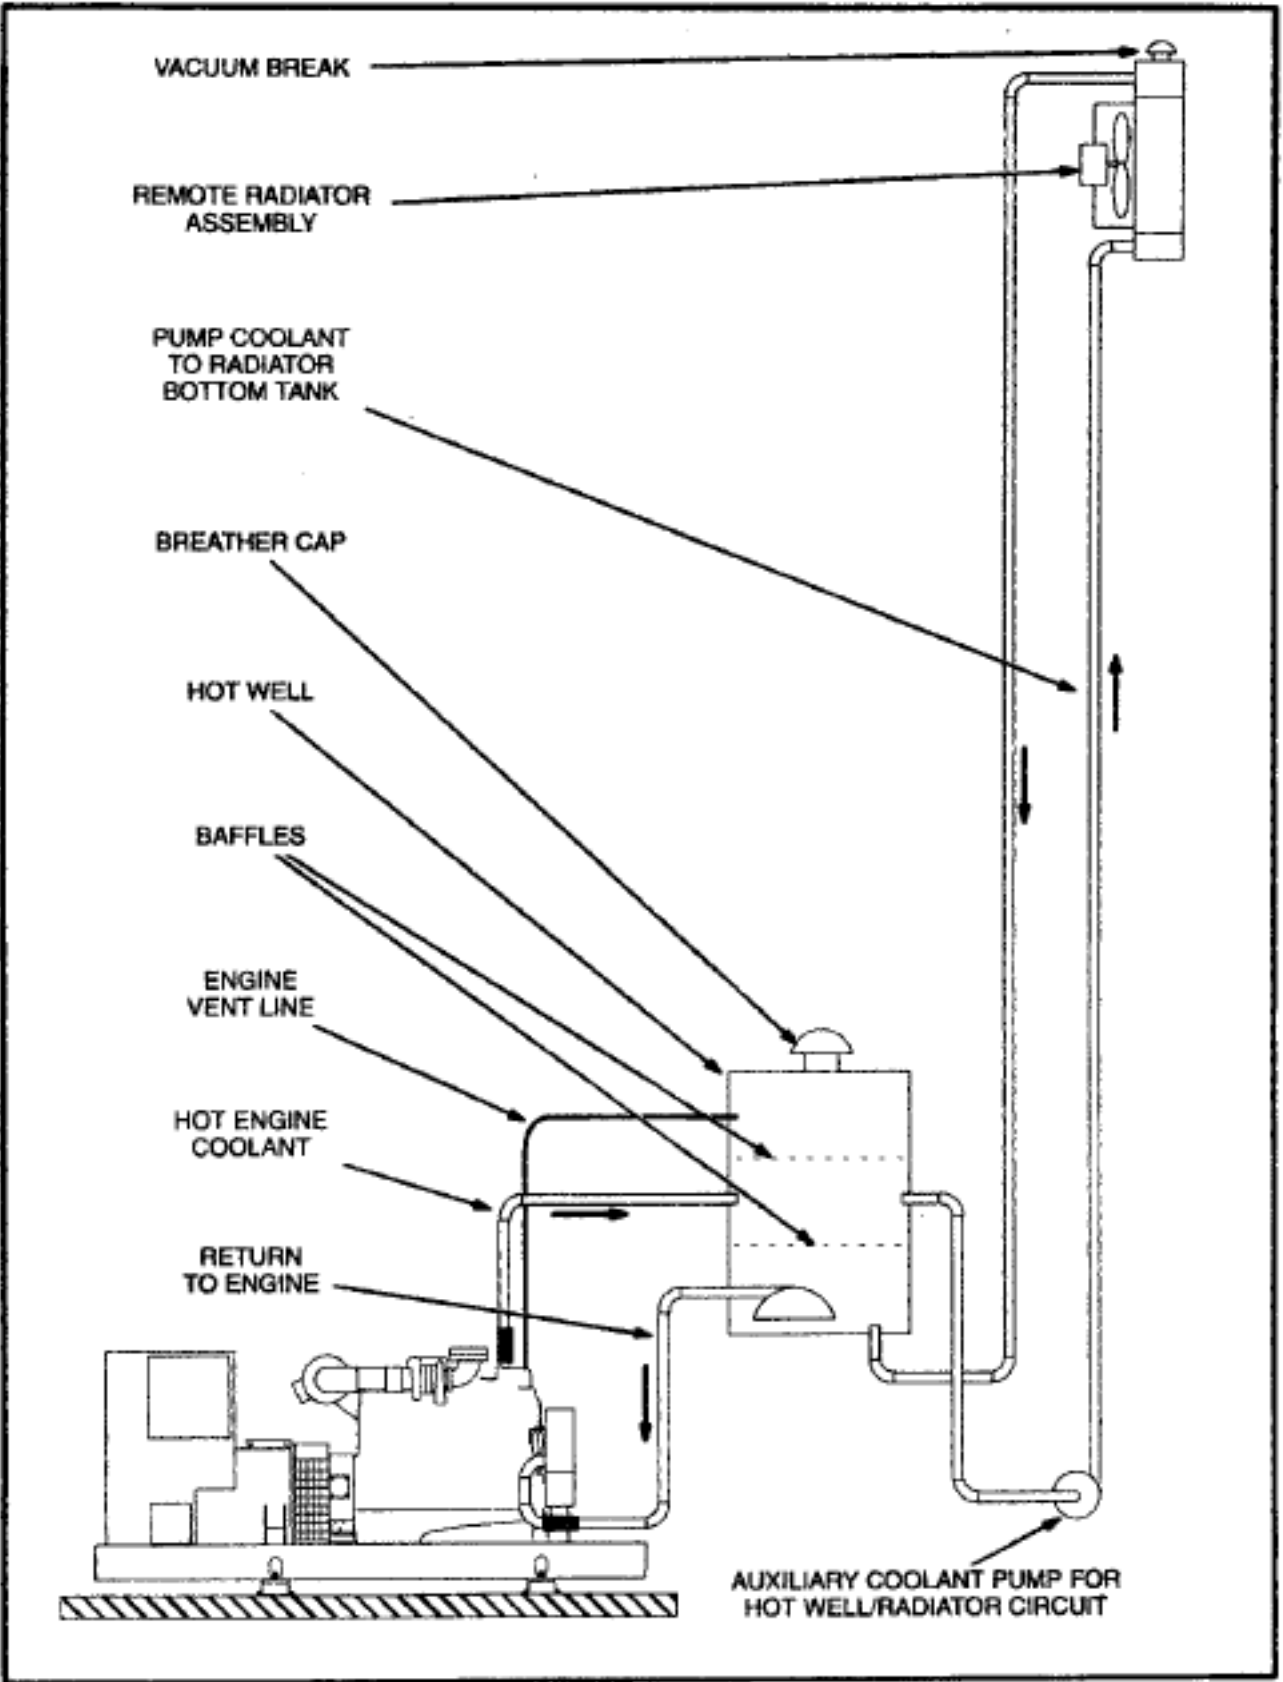

FIGURE 29. REMOTE RADIATOR WITH HOT WELL AND AUXILIARY COOLANT PUMP
**Remote Radiator with Hot Well:** A remote radiator with a hot well (Figure 29) can be used if the elevation of the radiator above the crankshaft centerline exceeds the allowable coolant static head on the generator set Specification Sheet. In a hot well system, the engine coolant pump circulates coolant between engine and hot well and an auxiliary pump circulates coolant between hot well and radiator. A hot well system requires careful design. In addition to the considerations under Remote Radiator, consider the following: